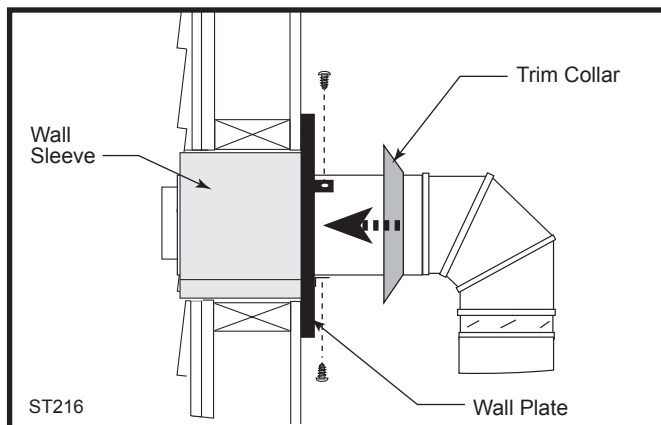

Fig. 26 Install the horizontal pipe and wall plate parts.
9. Connect the horizontal pipe to the elbow. Fasten the wall plate to the pipe with three sheet metal screws. Slide the trim collar up against the wall plate to cover the screws. (Fig. 26)